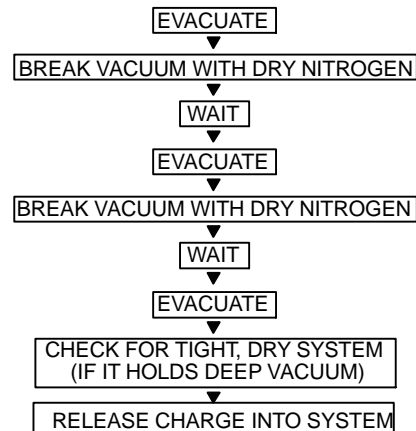

Fig. 20 – Triple Evacuation Method
The triple evacuation method should be used. Refer to Fig. 20 and proceed as follows:
- 5 Repeat this procedure as indicated in Fig. 20. System will then be free of any contaminants and water vapor.